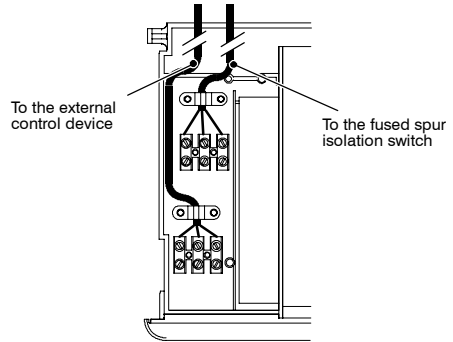

Fig. 6.15
- 9 Route the electrical supply flexible cord and the external control flexible cord as illustrated in Fig. 6.15. Lock the flexible cords in place with the flexible cord clamps